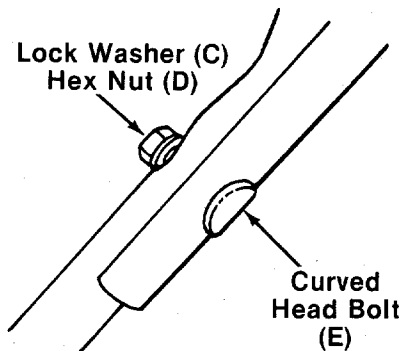

FIGURE 3.
5. Place the upper handle in position over the lower handle. The control housing must be on the left hand side of the handle. Secure the upper handle using the curved head bolt (E), lock washer (C) and hex nut (D) as shown in figure 3.